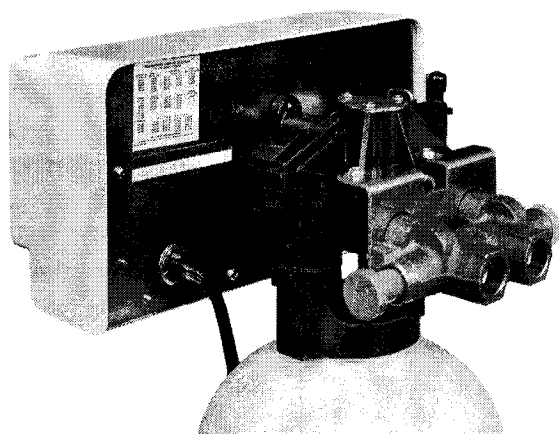

Fig. 12
- Using a small open-end wrench, assemble the Cul-Flo-Valv[®] Bypass to the mounting bracket with the two screws provided. Note that the Cul-Flo-Valv Bypass can be mounted in one position only (Fig. 12).